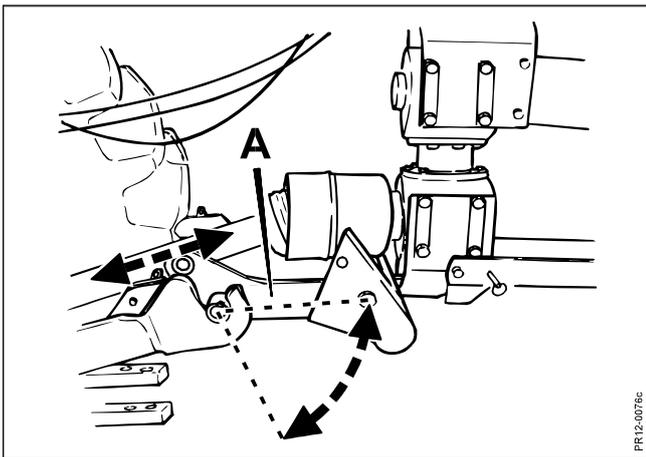

Fig. 2-5
- Fig. 2-5 - has as much overlapping as possible